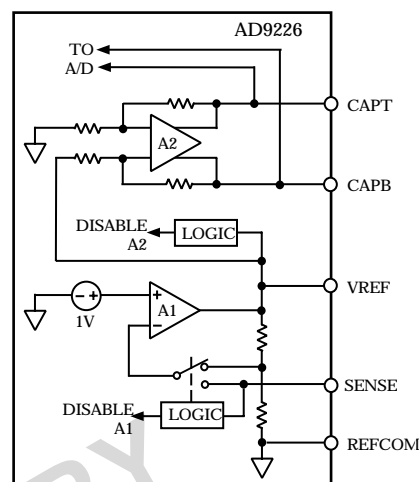

Figure 17 Equivalent Reference Circuit
The actual reference voltages used by the internal circuitry of the AD9226 appear on the CAPT and CAPB pins. For proper operation when using the internal or an external reference, it is necessary to add a capacitor network to decouple these pins. Figure 17 shows the recommended decoupling network. This capacitive network performs the following three functions: (1) along with the reference amplifier, A2, it provides a low source impedance over a large frequency range to drive the A/D internal circuitry, (2) it provides the necessary compensation for A2, and (3) it bandlimits the noise contribution from the reference. The turn-on time of the reference voltage appearing between
coupling network associated with the CAPT and CAPB pins. Please refer to the Reference Operation section for a discussion of the internal reference circuitry and the recommended decoupling network shown in Figure 17.